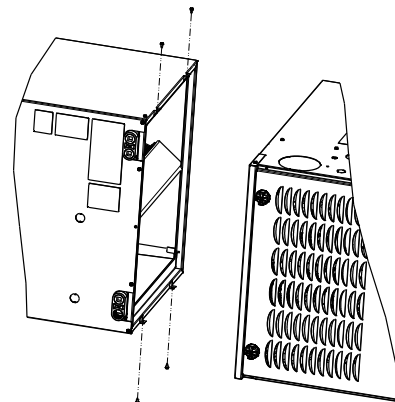

Fig. 13 – Horizontal Left Installation
3. Use self-tapping screws to attach furnace (Fig. 13).